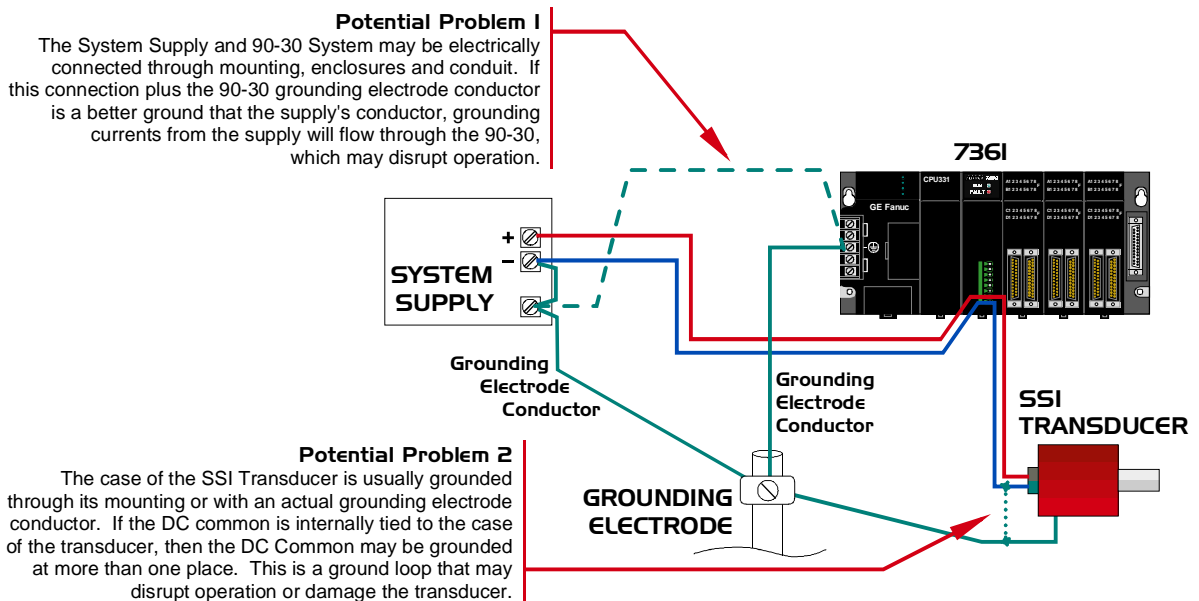

Figure 6.1 System Supply Grounding Problems
- 1) **GROUNDING.** Grounding is a concern if your system supply if it isn't bonded to your machine's grounding electrode through the same grounding electrode conductor as you 90-30 system, or the SSI Transducer internally connects the DC common to its case. Figure 6.1 shows these two potential problems.